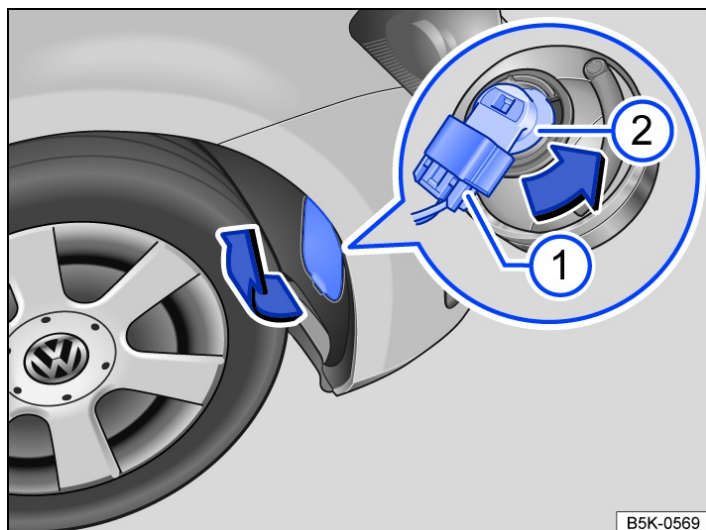

Fig. 1 In the front bumper on the right: changing a bulb in the headlight.
7. Fit the rubber cover → Fig. 1  on the back of the headlight.
3. Use a suitable object, e.g. a slotted screwdriver, to carefully lever the cover off in the direction of arrow → Fig. 1.